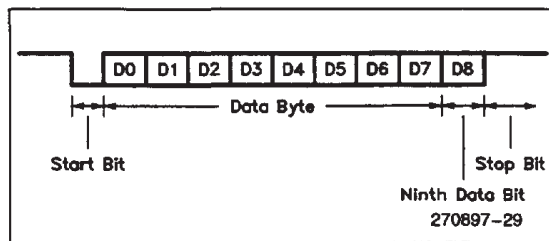

Figure 27. Mode 3 Data Frame
Mode 3: 11 bits are transmitted (through TXD) or received (through RXD): a start bit (0), 8 data bits (LSB first), a programmable 9th data bit and a stop bit (1). In fact, Mode 3 is the same as Mode 2 in all respects except the baud rate. The baud rate in Mode 3 is variable: you can use Timer 1 and/or Timer 2 to generate baud rates. See Figure 27.